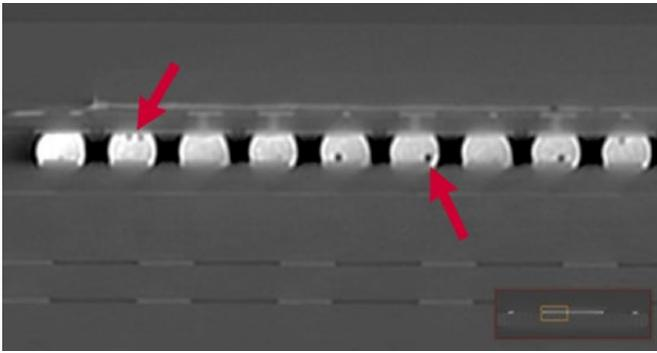

Figure 7: CT image of area of interest for failed CTBGA228.
For this test, in addition to continuous daisy-chain resistance monitoring, computed tomography (CT) and failure analyses (FA) were performed. CT was performed on a failed BGA228 to determine the location of the failure before performing destructive analysis. Dye-and-pry and cross-sectioning were then performed at these locations to further visualize the location of fracture interface in a sectioned plane. Figure 7 shows the location of interest based on the CT images (area of interest found to be in the middle row of solder balls).